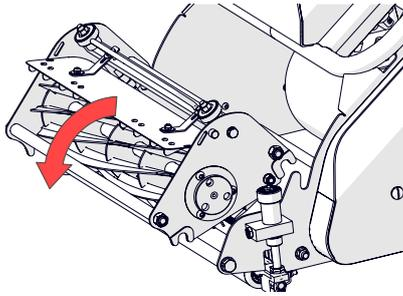

Fig.8D - Lift the cassette out.
5. From the front of the machine, hold onto the cassette handle and remove by a lift-and-swing motion, from the back to the front. ⚠ (Fig.8D). We recommend two people to help with this for larger cassettes.